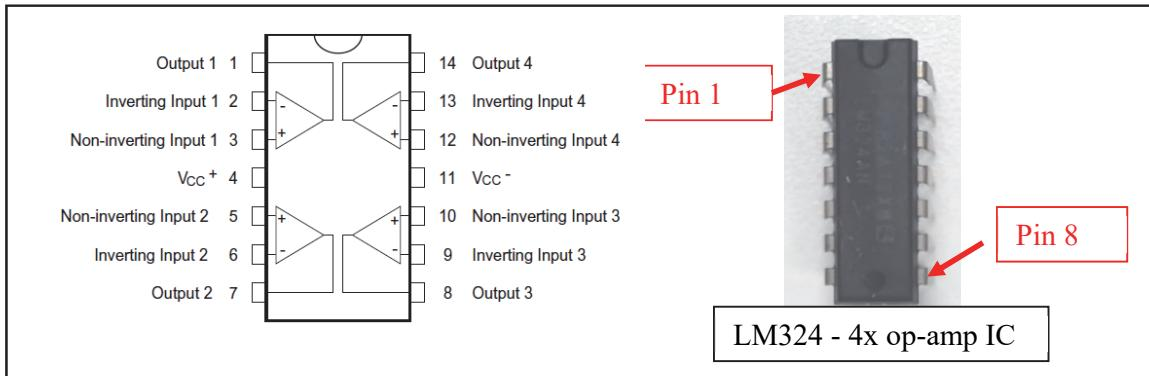
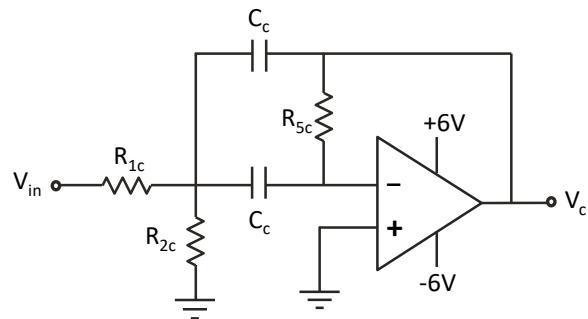
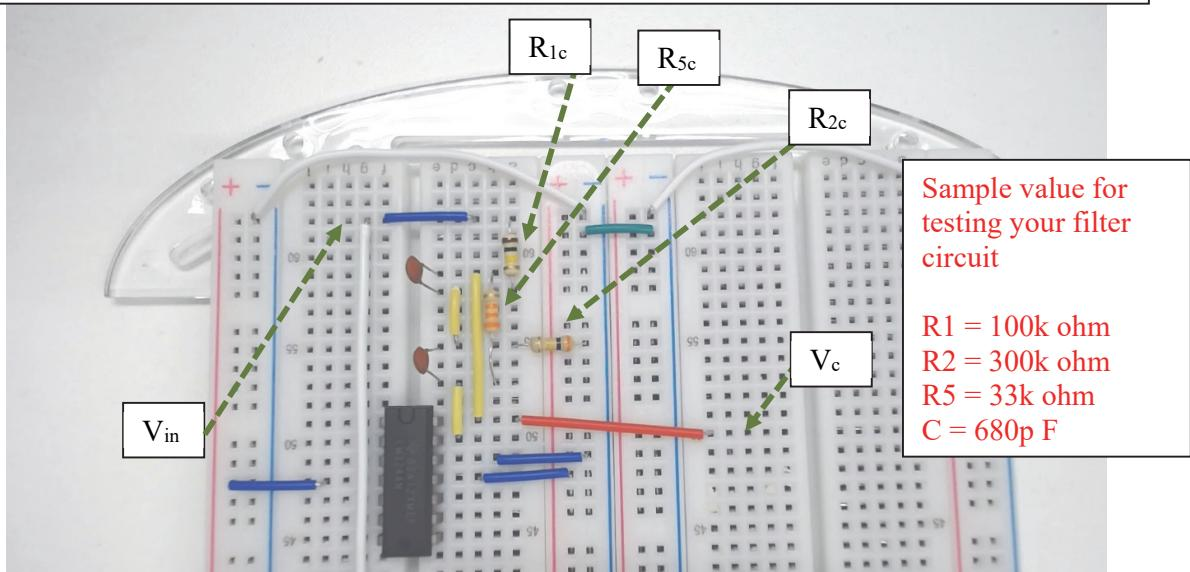

Fig. 13
Fig. 14 (high frequency band-pass filter)
Fig. 15
- 5.1.4 There is a power LED shown in Fig. 14 to indicate the power is ON. Once the board is powered up, you should always check the status of the power LED. It should be ON all the time. If the LED is suddenly OFF after you inserted something or changed wiring, in that case, you have to immediately take off the battery from battery compartment, and you should check your circuit. You could refer to the video (video2-power\_LED\_suddenly\_OFF.mp4)
The LM324 (4 x op amps IC) is shown in Fig. 13. Use the value of the  $R_{1c}$ ,  $R_{2c}$ ,  $R_{5c}$ ,  $C_c$  for high frequency band obtained in Lab 5a simulation. Connect the high frequency band-pass filter circuit as shown in Fig. 14, and put all the components on the breadboard as shown in Fig. 15. Don't forget to connect the positive and negative supply. For simplicity, only one opamp is used in each LM324 for each band-pass filer.